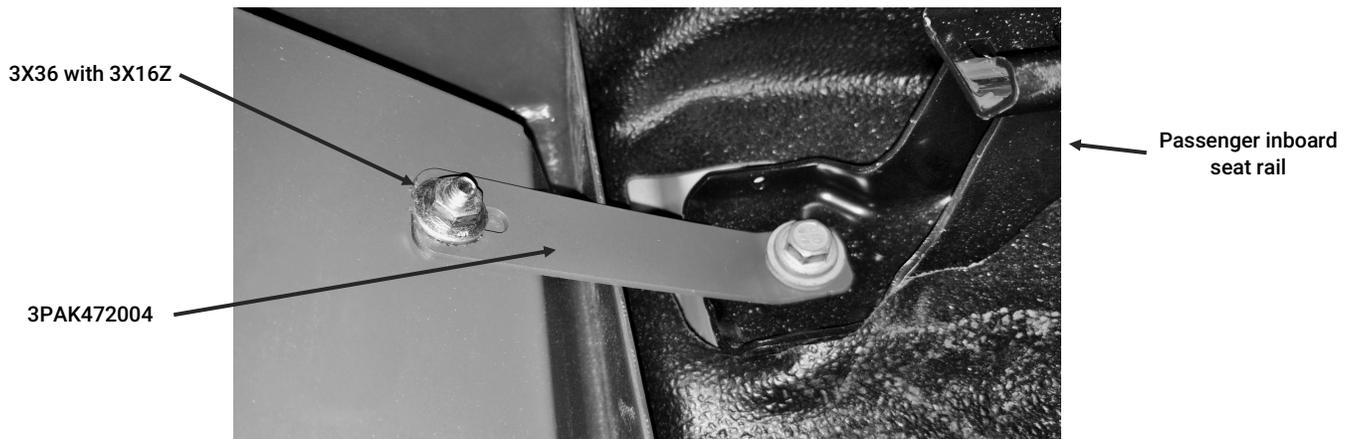

Figure 8
- B. Place (1) Reinforcement Bracket [3PAK472004] on top of the seat rail and loosely reinstall the OEM bolt removed in Step A.
- C. Align the slotted end of the Reinforcement Bracket with the corresponding hole in the Lower Extension Panel [3LEP472001]. Use (1) carriage bolt [3X36] and (1) whiz nut [3X16Z] to secure the bracket to the Lower Extension Panel. Tighten with a 7/16" socket (Fig 8).